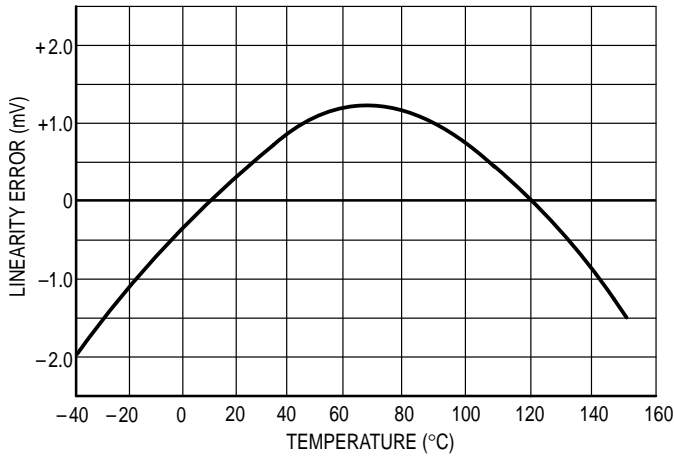

Figure 4. Linearity Error versus Temperature
- All devices within an individual group, as described in Note 1, will track within the specified temperature accuracy. This includes variations in TC, VBE, and nonlinearity in the range -40 to +150°C. Nonlinearity is typically less than ±1°C in this range. (See Figure 4)